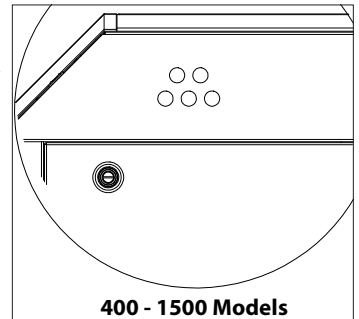

Figure 32 - Knockout Locations - 400 - 1500 Models Only
1. All low voltage cables should enter the electrical junction box through the provided knock out holes as shown in Figure 32.